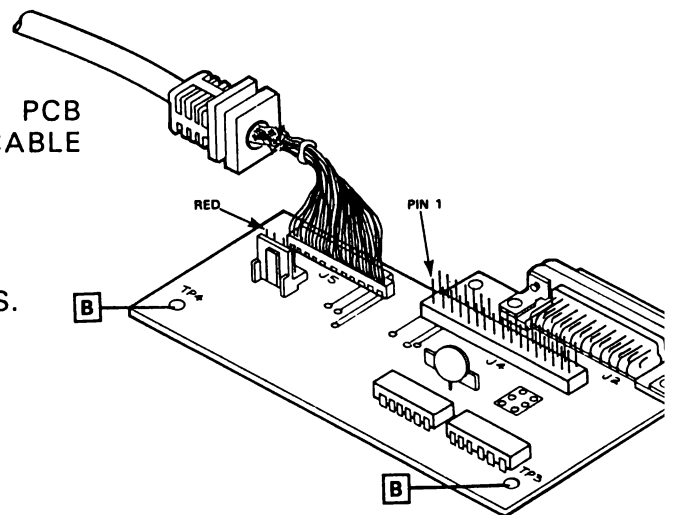

Fig. 2-9. PCB Assembly
2.5.1 Remove the 2 screws from the PCB at the locations illustrated in Fig. 2-9.